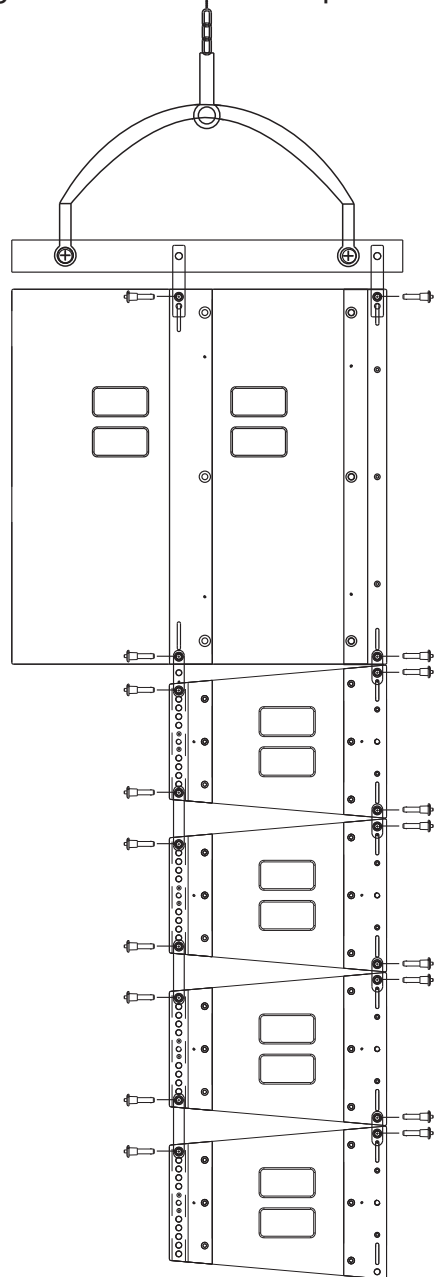

Figure 8
Step 8: Repeat the above steps to complete the lifting of the whole set of speakers (Figure 8).